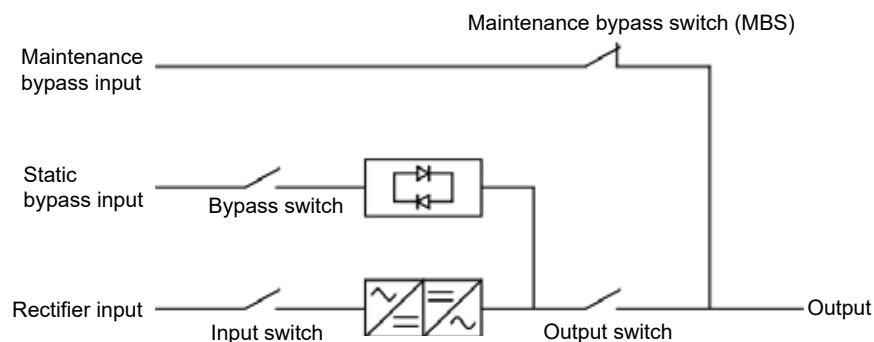

Figure 6-44: Maintenance Bypass Mode
3. Take the UPS module out of the packing box; Check whether the lock on the front of the module is open“ ☐ “ , if it is locked“ ☒ ” , please toggle it to the open state“ ☐ “ , lift the module, insert it into the slot and push it (see Figure 6-44).
5. Install UPM screws ① .
6. Push the lock on the front panel of the module to the locked state“ ☒ ” (see Figure 6-44).